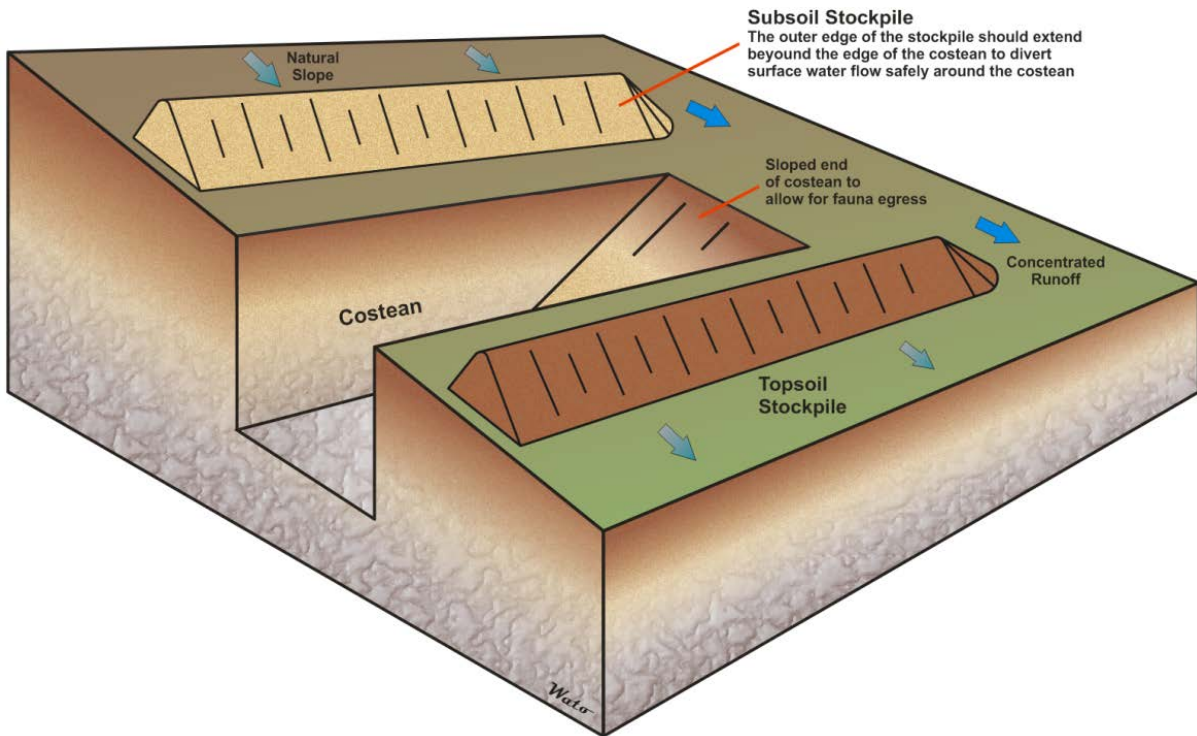

Figure 1. Example of costean showing locations of topsoil and subsoil stockpiles during construction.
- Stockpiling topsoil and subsoil separately on either side of the costean or bulk sample pit, for later rehabilitation if not required for sampling purposes (See Figure 1).
- Preventing erosion on sloping ground by installing drainage structures which minimise surface water flow into the excavation. Catch drains should not be used as they can lead to increased soil erosion. Instead, the topsoil and subsoil stockpiles can be used to divert water around the excavation site provided that the stockpiles' outer edges extend beyond the edge of the excavation (**Figure 1**).